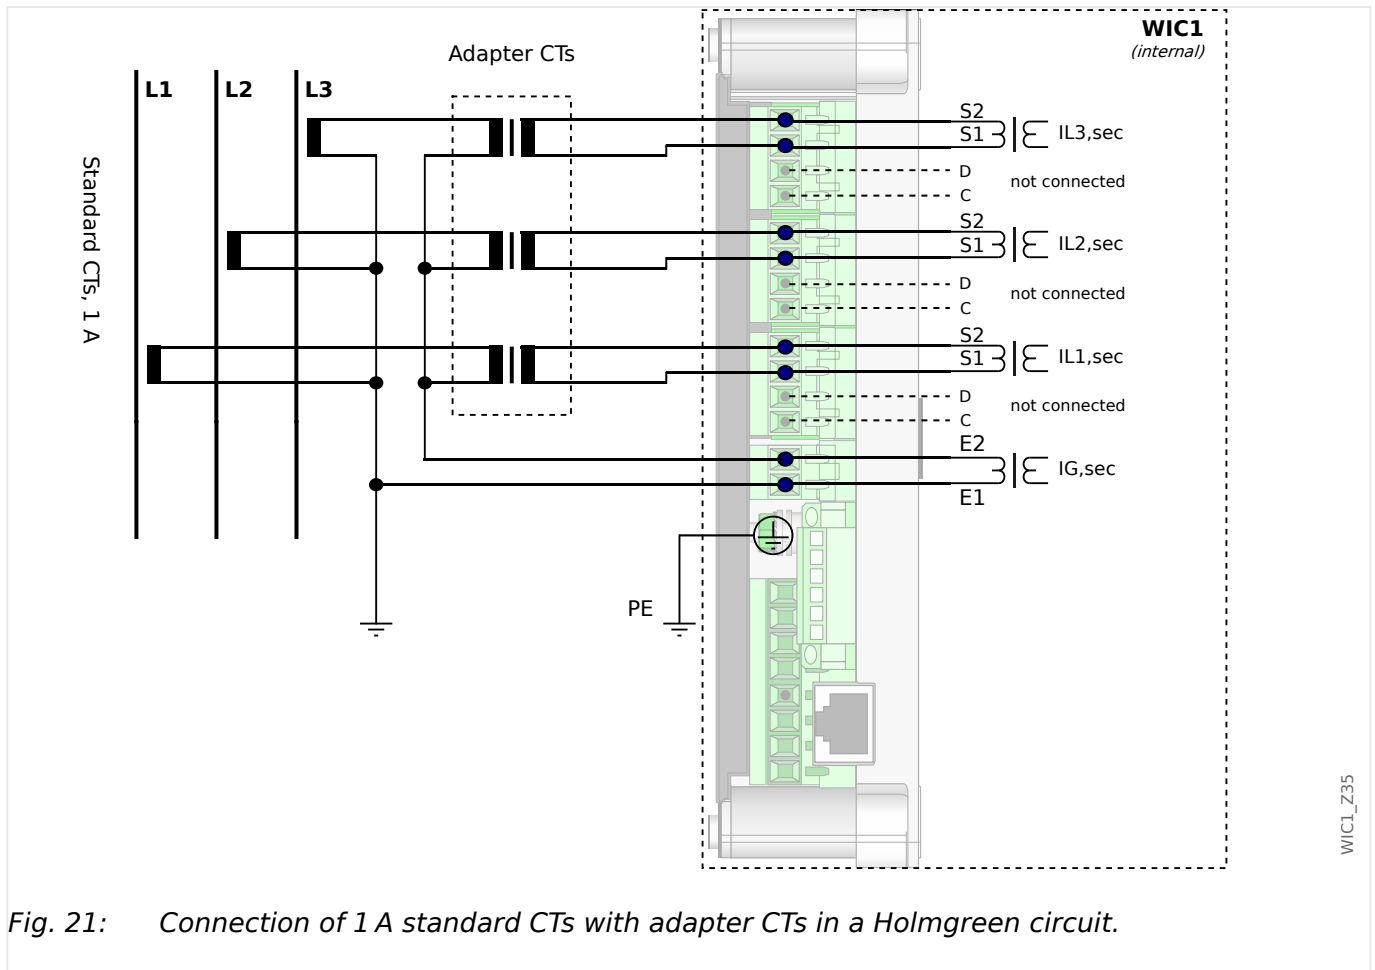

Fig. 21: Connection of 1 A standard CTs with adapter CTs in a Holmgren circuit.
- R_{wic1} for Holmgreen connection, as shown in  Fig. 21: $R_{wic1} = 0.3 \Omega$
- R_{wic1} for Holmgreen connection, as shown in  Fig. 21: $R_{wic1} = 0.1 \Omega$